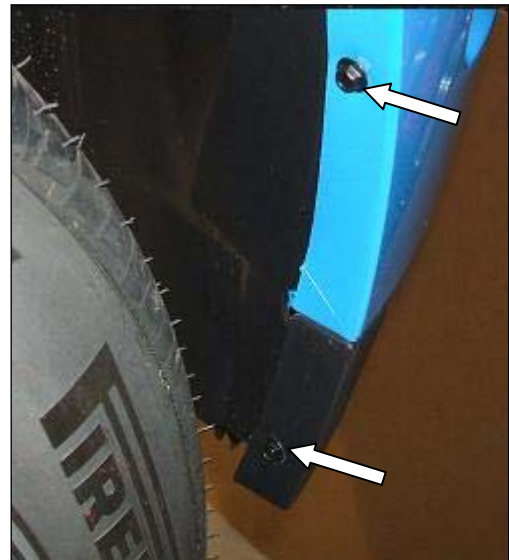

Figure 7
7. Using a 7 mm wrench, remove two (2) screws from each wheel well opening. Refer to Figure 7.
12. Reinstall two (2) screws, removed in Step 7, to each wheel well (4 total). Refer back to Figure 7.